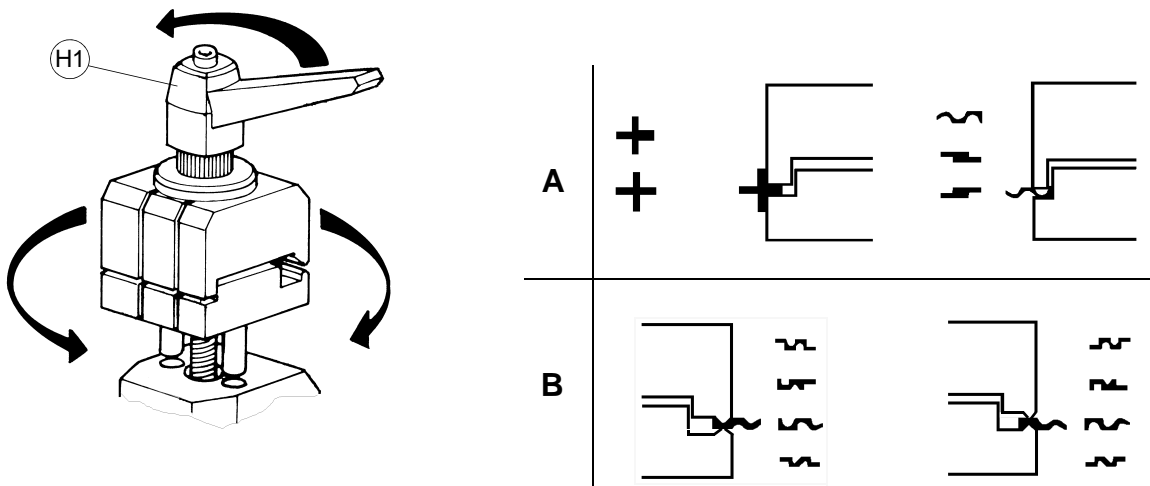

Fig. 9
- 1) turn the clamps to find the appropriate side for securing the key (fig.9)
- 2) loosen the knobs (H1) (fig.9) by a couple of turns.
- **Side A:** for keys to be fitted on their backs (fig.9-B);
- **Side B:** for keys to be cut on both sides and locked on the groove (fig.9-B).
- 2) secure the keys by closing the clamps with the knobs (H1) (fig.9).